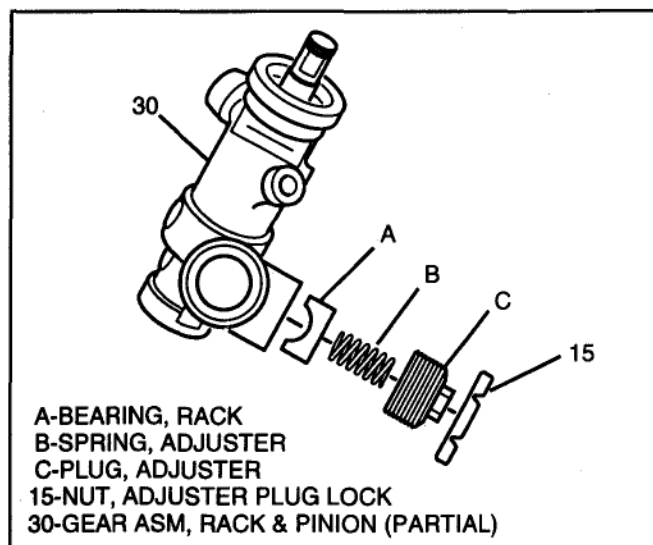

Figure 10 Rack Bearing Removal
2. Adjuster plug lock nut (15) from adjuster plug (see Figure 10).